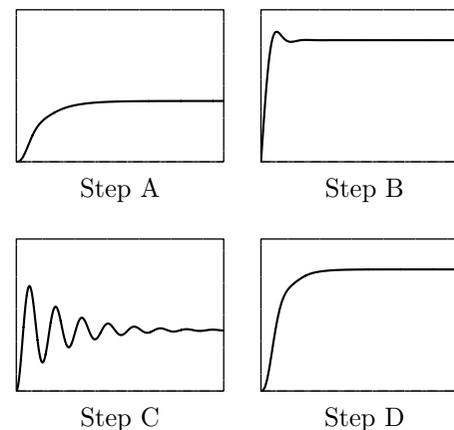

Figure 2.10a. All comparable axes have equal scaling.
2.10 Figure 2.10a shows the step responses of four different systems. Combine each step response with a transfer function from the alternatives below.